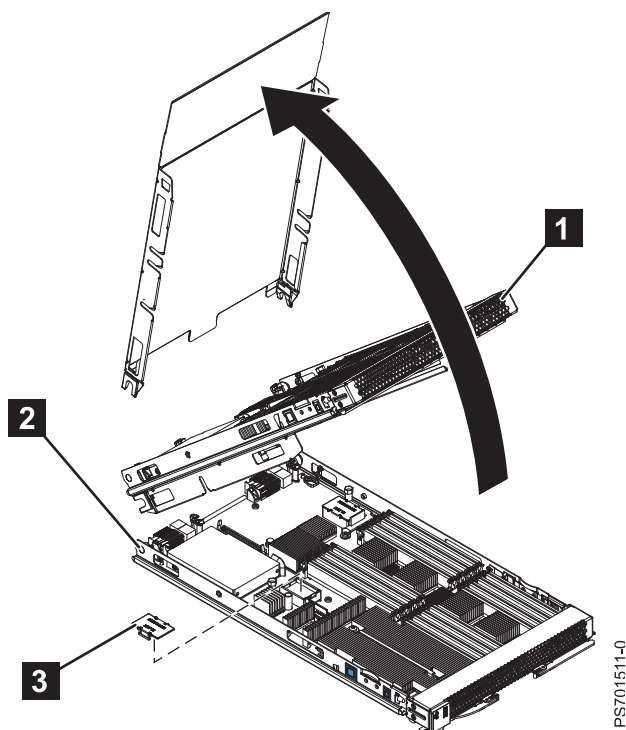

Figure 10. Removing the expansion unit
6. Pivot the expansion unit (**1** in Figure 10 on page 24) up on the cover pins of the base unit (**2**).
7. Lift the expansion unit (**1** in Figure 10) from the blade server base unit and store it for future use.
8. If you are not installing another expansion unit, replace the expansion connector cover (**3** in Figure 10).